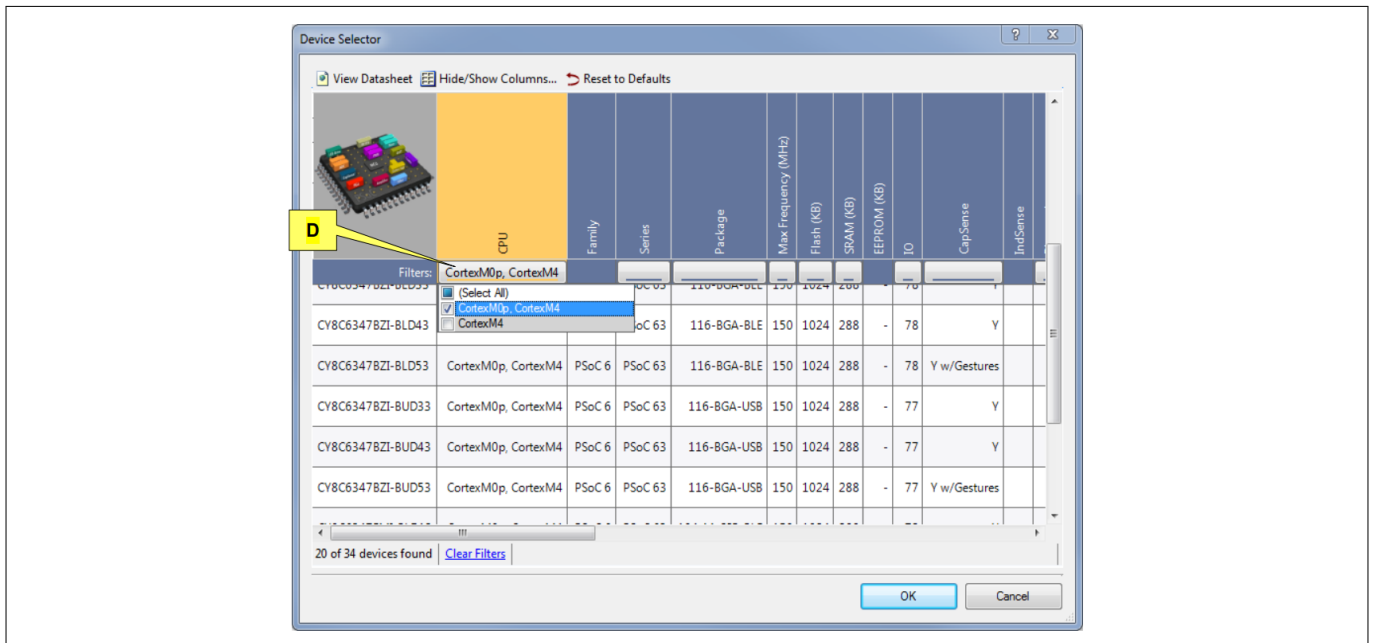

Figure 4 PSoC™ Creator device selector dialog
Figure 4 shows the Device Selector dialog. To see a list of dual-core devices, click the **CPU** category (D) and select only **CortexM0p, CortexM4**.